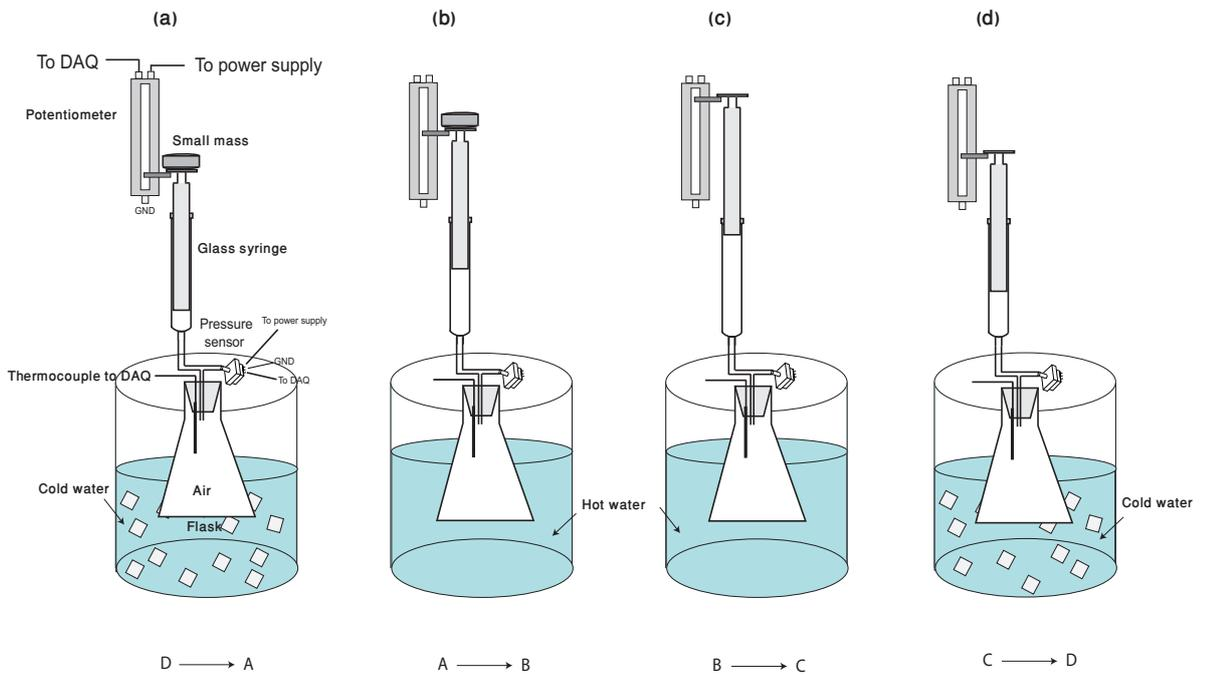

Figure 12: Steps depicting the implementation of the Carnot cycle.
**Q 23.** Connect a 20 mL glass syringe to the pressure sensor, 37 ml conical flask and a linear potentiometer as shown in Figure 12. The position of the potentiometer should be vertical allowing the free movement of the sliding contact.
**Q 24.** Place the flask in the cold reservoir whose temperature is monitored using the thermocouple. Open the LabView file **heatengine.vi** and click **Run**. The values of pressure and volume will be stored in a file **heatengine.lvm** in the **heat\_engine** folder in the Z drive. Now place a small mass (e.g. 50 or 100 g) at the top of the syringe slowly, without displacing the assembly, see Figure 12 (a). The gas inside the flask contracts adiabatically and moves the potentiometer. The relevant change in the position is monitored using the DAQ system. Now move
the flask to a hot reservoir with known temperature, as shown in Figure 12 (b) and observe the changes. Next, remove the mass slowly from the piston, making the piston to expand more, Figure 12 (c) representing the expansion. Last, place the flask back in the cold reservoir as shown in Figure 12 (d). The gas achieves its original volume. Stop the vi file.